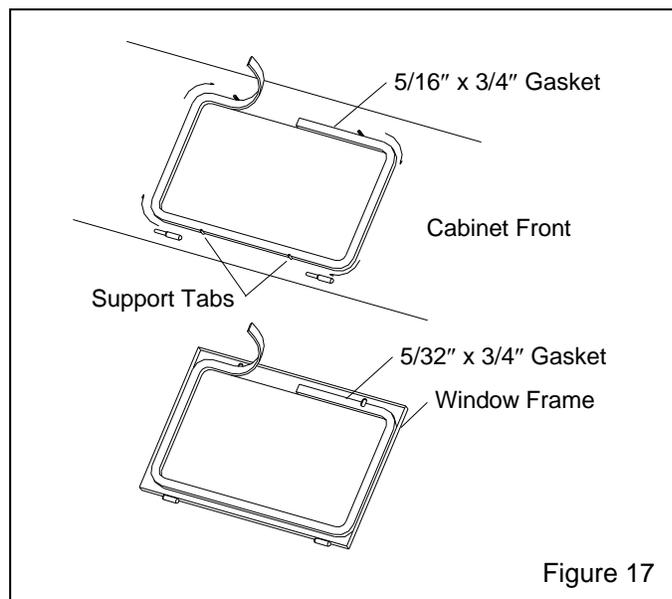

Figure 17
7.4 Window Gasket Replacement, Figure 17
7.4.4 Peel a short section of adhesive backing from the 5/16"-thick strip gasket, and adhere the gasket to the center of the top edge of the window opening as shown in Figure 17. Peel additional backing as needed, and work the strip around the radius of each corner, pressing it firmly to bond. Trim the gasket to fit and compress the ends to seal.